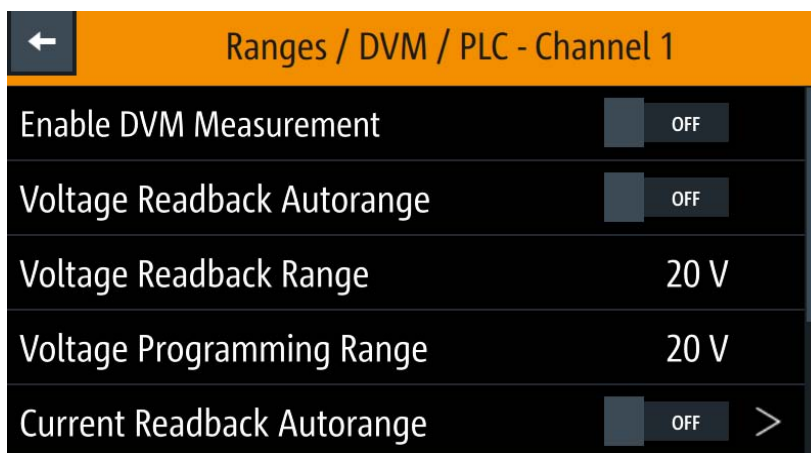

Figure 6-19: Ranges / DVM / PLC dialog for R&S NGU201 model
1. Select "Current Readback Autorange" from Figure 6-19.